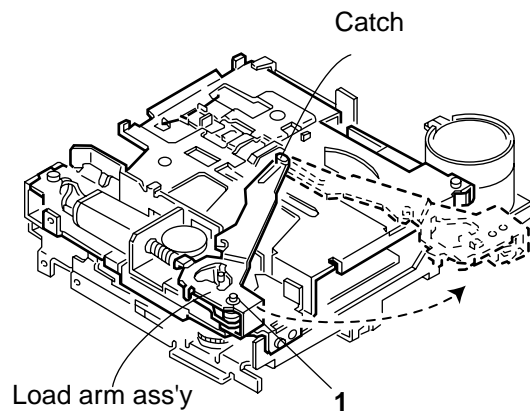

Fig. 2
■ Removing the load arm ass'y (see Fig.2)